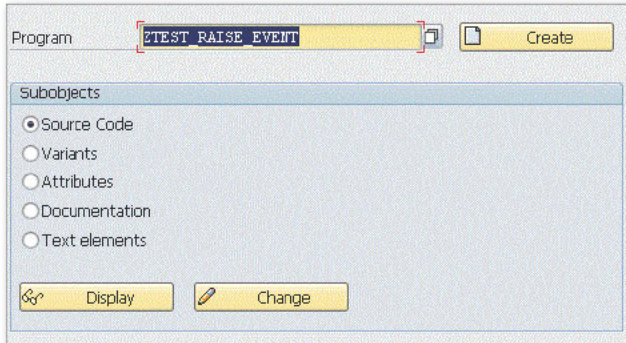

Figure 3 Creating a Program with Transaction SE38
4. Create a simple program using Transaction SE38 that will raise the event and fire up the process. To do that, go to Transaction SE38 and create the program. In the example shown in Figure 3, we are creating a new program called ZTEST_RAISE_EVENT.